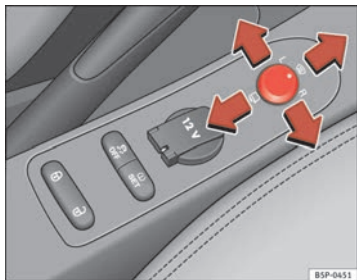

Fig. 90 Controls of exterior mirrors
1. Turn knob ⇒ fig. 90 to position **L (left exterior mirror)**.
- Turn the knob forwards to the central position ⇒ fig. 90  so that the heated rear view mirrors warm up and the heated windscreen* in the wiper blade rest area is activated ⇒ page 123.
- Turn the control ⇒ fig. 90 to position  to fold in the exterior mirrors. You should always fold in the exterior mirrors if you are driving through an automatic car wash. This will help prevent damage.